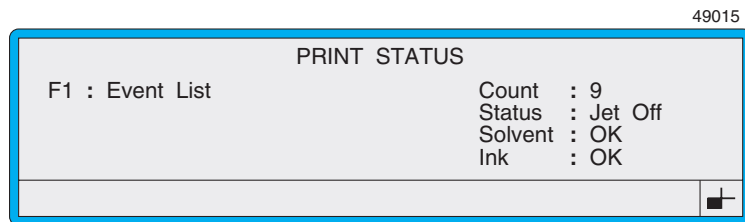

Figure 3-12 Print Status Screen
1. At the **CURRENT MESSAGE** screen, press the [F2] function key to display the **PRINT STATUS** screen (see Figure 3-12 on page 38).